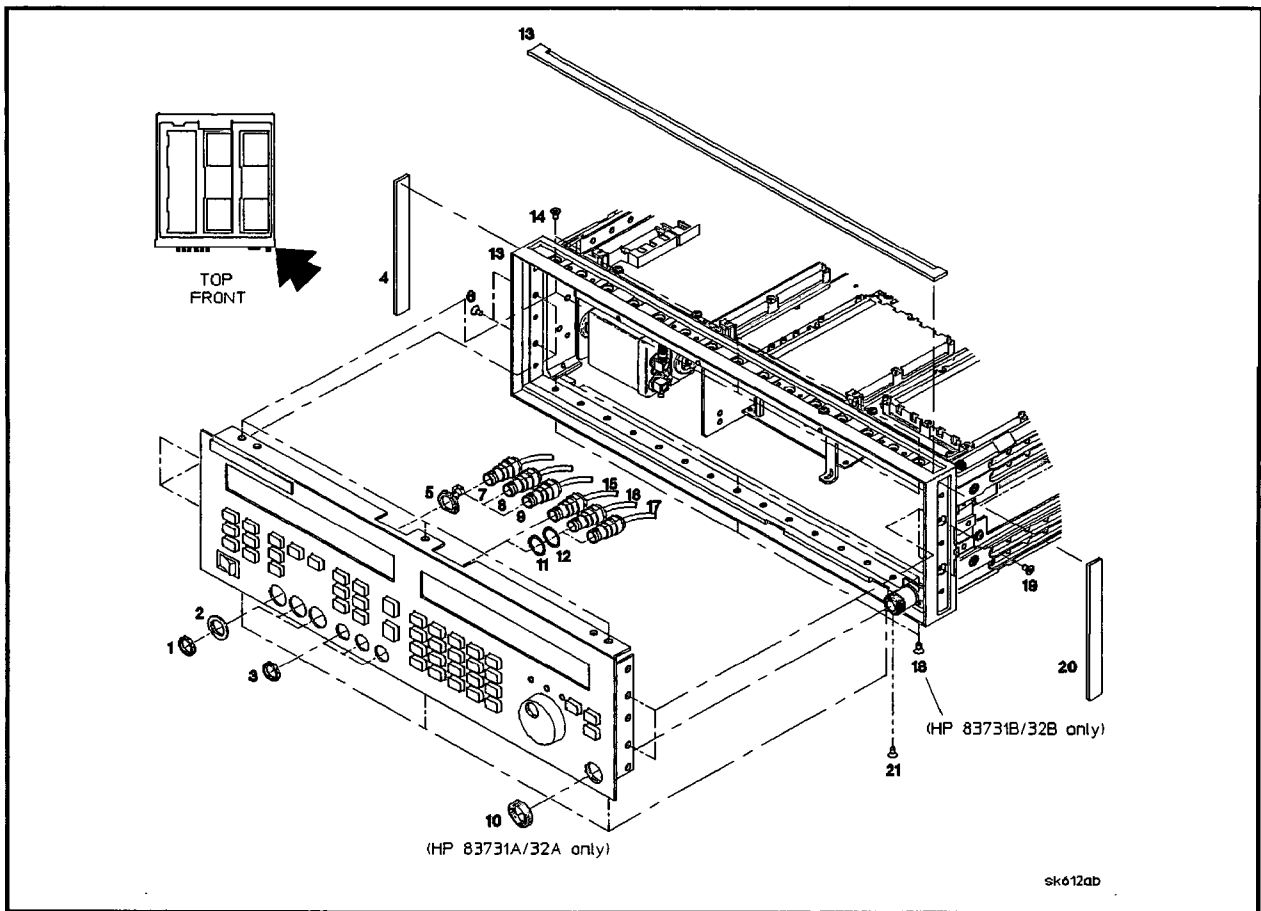

Figure 5-41. Display and Keyboard Removal
2. See Figure 5-41 for the remainder of this procedure.
1. Using a size 10 TORX® screwdriver, remove the nine keyboard screws. See to Figure 5-41.